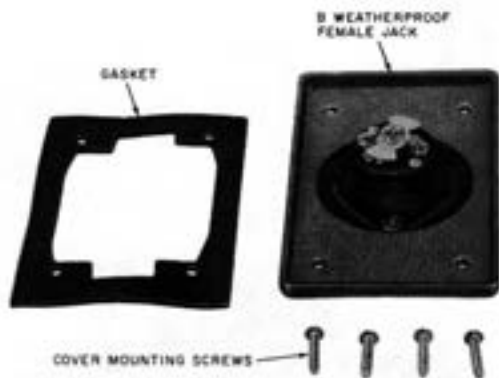

Fig. 11—B Weatherproof Female Jack
2.09 The B weatherproof female jack (Fig. 11 and 13) mounts in the B outlet box located at the trailer service pad or on the dock at the marina. It receives the male plug of the B weatherproof cord. The jack has a spring-loaded hinged cover to make it weatherproof when not in use. Three screw terminals
- One B weatherproof female jack (mounted on post at protector, Fig. 11)
- One B weatherproof female jack (mounted on post on dock or pier to accept other end of cord, Fig. 11 and 13)